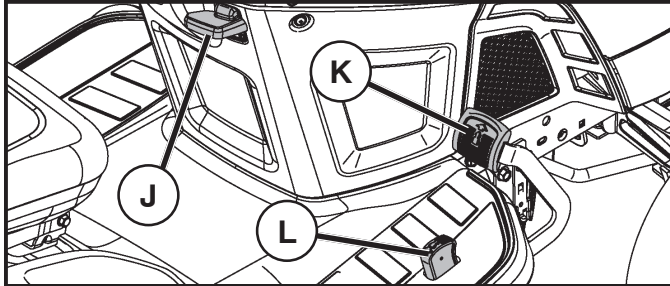

Fig. 8
- Slowly depress forward (K) or reverse (L) drive pedal to begin movement. Ground speed increases the further down the pedal is depressed.
TO USE CRUISE CONTROL (J) (See Fig. 8)